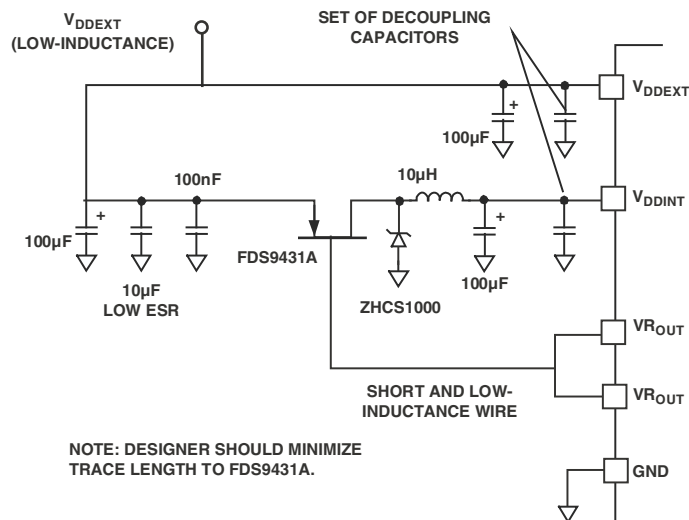

Figure 7. Voltage Regulator Circuit
**Figure 7** shows the typical external components required to complete the power management system. The regulator controls the internal logic voltage levels and is programmable with the voltage regulator control register (VR\_CTL) in increments of 50 mV. To reduce standby power consumption, the internal voltage regulator can be programmed to remove power to the processor core while keeping I/O power ( $V_{\text{DDEXT}}$ ) supplied. While in the hibernate state, I/O power is still being applied, eliminating the need for external buffers. The voltage regulator can be activated from this power-down state either through an RTC wakeup or by asserting  $\overline{\text{RESET}}$ , both of which initiate a boot sequence. The regulator can also be disabled and bypassed at the user's discretion.